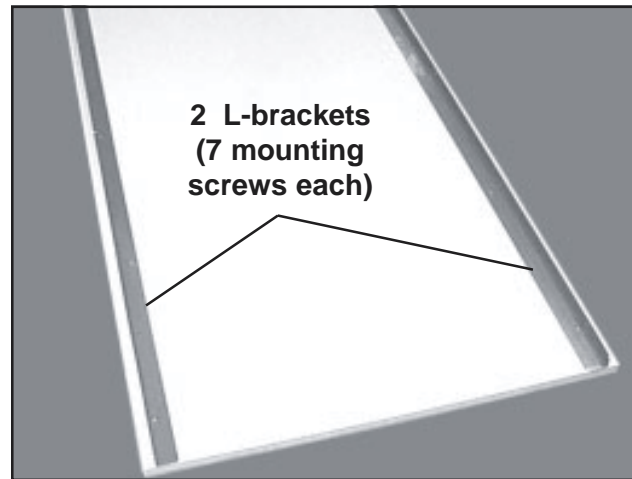

Figure 2. Two L-brackets Mounted on Chase Side Panel
2. With seven screws per L-bracket, fasten L-brackets to both sides of the panel (Figure 2).
3. Attach the remaining chase panel with eight screws (four each side)(Figures 2 & 3).